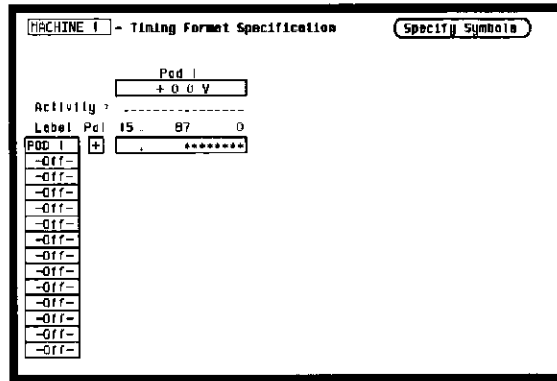

Figure 3-36. Threshold Accuracy Format Specification
3. Configure **Timing Format Specification** for **User Defined** pod threshold of **0.0 V** for the pod under test and assign the lower eight bits in the bit assignment field as in figure 3-36. Refer to steps a and b if unfamiliar with menu.